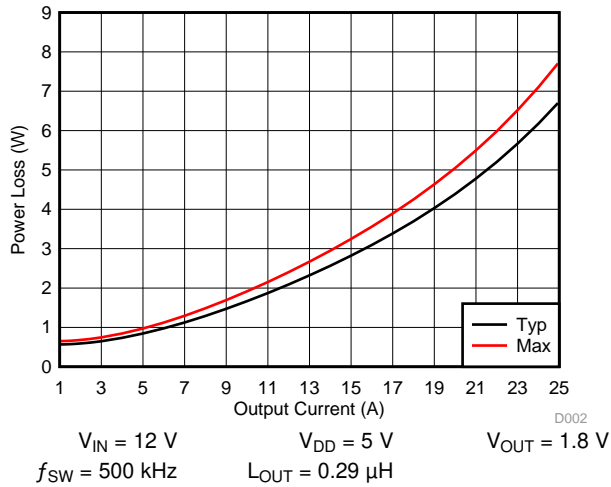

Figure 4. Power Loss vs Output Current
MOSFET centric parameters such as RDS(ON) and Qgd are primarily needed by engineers to estimate the loss generated by the devices. In an effort to simplify the design process for engineers, Texas Instruments has provided measured power loss performance curves. Figure 4 plots the power loss of the CSD97395Q4M as a function of load current. This curve is measured by configuring and running the CSD97395Q4M as it would be in the final application (see Figure 14). The measured power loss is the CSD97395Q4M device power loss which consists of both input conversion loss and gate drive loss. Equation 1 is used to generate the power loss curve.
The power loss curve in Figure 4 is measured at the maximum recommended junction temperature of TJ = 125°C under isothermal test conditions.
- Typical Power Loss at 15 A = 2.8 W (Figure 4)